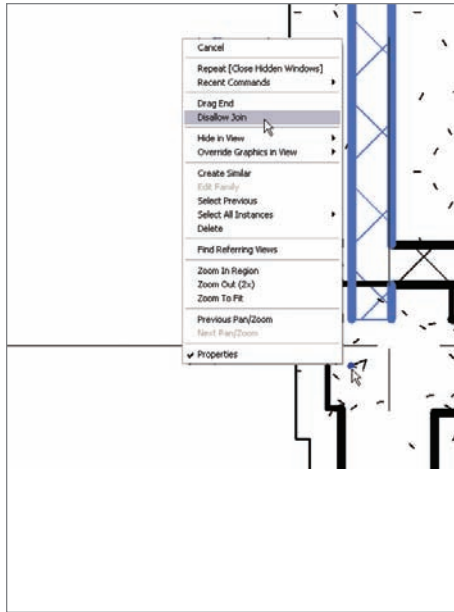

FIGURE 8.52 The walls are not behaving as we would like them to.
2. Zoom into the east wing area where the south elevator meets the foundation wall. There is an issue: the walls are funky, as shown in Figure 8.52.
4. On the blue grip, right-click and select Disallow Join, as shown in Figure 8.52.
5. Click the grip on the masonry wall (the same one you right-clicked on to disallow the join), and drag it back to the outside face of the corner, as shown in Figure 8.52.